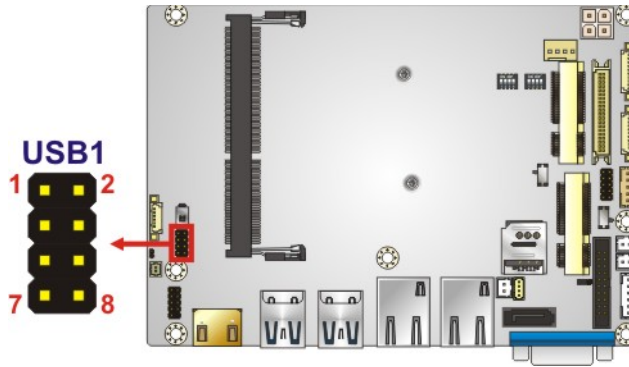

Figure 3-22: USB 2.0 Connector Location
- CN Location:** See **Figure 3-22**